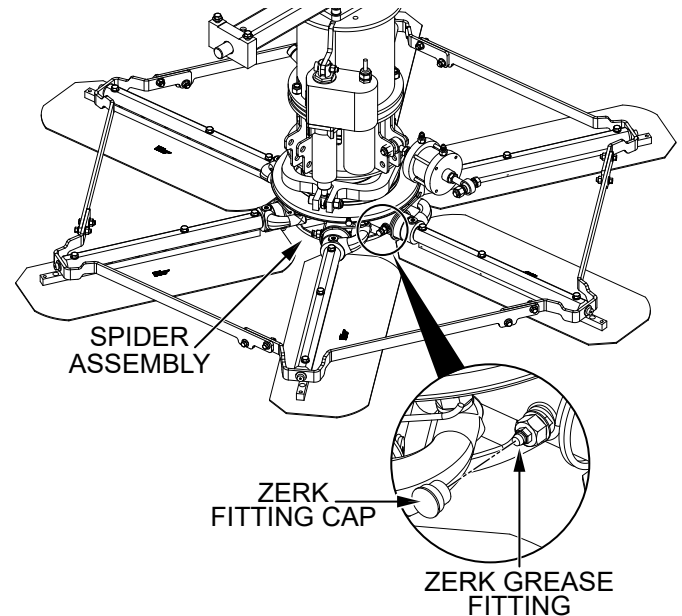

Figure 39. Spider Lubrication
1. Locate one of the **Zerk grease fittings** on either **spider assembly** (Figure 39). Remove the **Zerk fitting cap** and set it aside.